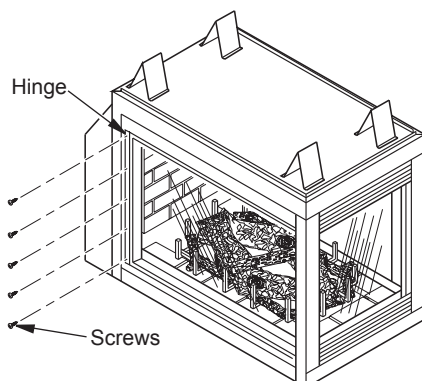
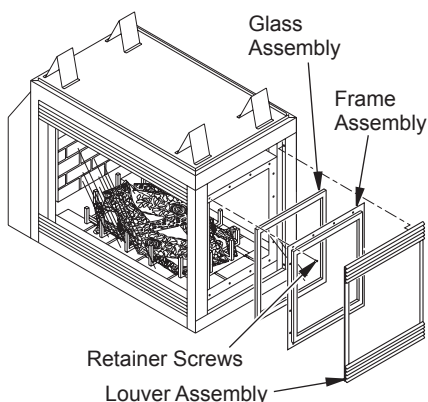

Figure 56 - Removing Glass Door
Figure 57 - End Panel Replacement
3. If replacement is necessary, entire assembly (frame and glass) must be replaced. If glass is broken, wear gloves and tape remaining fragments onto frame. Remove 5 screws located on end of firebox while holding frame assembly to prevent it from falling and causing injury (see Figure 56). Mount new frame at hinge with 5 new screws. Close and latch door. This will seat gasket. If replacing end glass panel, remove 16 screws around frame (see Figure 57). To insure proper fit, when installing new glass panels make sure seam in gasket is placed in the down position.